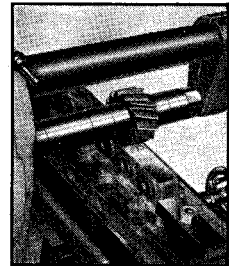
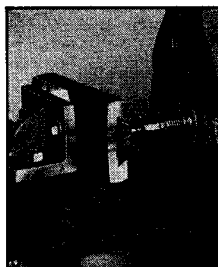

Fig. 8 — SLABBING
Fig. 11—DOVETAILING
The type and size of cutter to use depends entirely upon the shape of the piece to be milled. Some operations would require slab milling (Fig. 8); others, end milling, such as cutting a slot (Fig. 25); or dovetailing (Fig. 11 and 12), in which case a dovetail cutter is used. One very important thing should be kept in mind: When selecting a cutter the size should be the smallest permissible to perform the operation. The larger the cutter the more power it takes to drive it.
For this type of milling operation a plain milling cutter is used. A plain milling cutter is one which machines surfaces parallel to its own axis of rotation. The cutting teeth are only on the periphery of the cutter. The cutting teeth on some plain milling cutters are parallel to the axis of the cutter; others have helical edges which have an advantage over the parallel edge type because the full cutting edge of the tooth does not contact the work at the same time but rather the cut commences at one corner and gradually proceeds across the work in a shearing-like action, thereby resulting in much smoother cutting action. (See Fig. 8.)
5. DOVETAIL CUTTING:—For dovetailing it is necessary to use an angular cutter. (See fig. 11.) There are single and double angular cutters. The single angle type, like the one used for dovetailing, has one cutting face inclined at an angle to the axis of rotation of the cutter. A double angled one has two surfaces at an angle to the axis of rotation and are usually used for fluting taps, reamers, and similar work where it is important that two surfaces operated on at the same time are finished equally well.
The two sides of the female dovetail are also cut in the same way; that is, leave the cutter rotation the same and feed from opposite directions. (See fig. 11.)